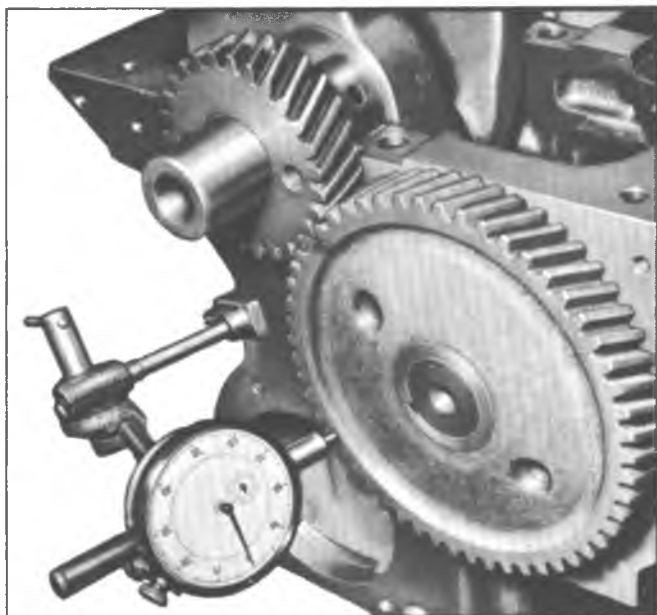

Fig. 26L—Checking Camshaft Gear Runout
- Check camshaft and crankshaft gear runout with a dial indicator (fig. 26L). The camshaft gear run out should not exceed .004" and the crankshaft gear run out should not exceed .003".